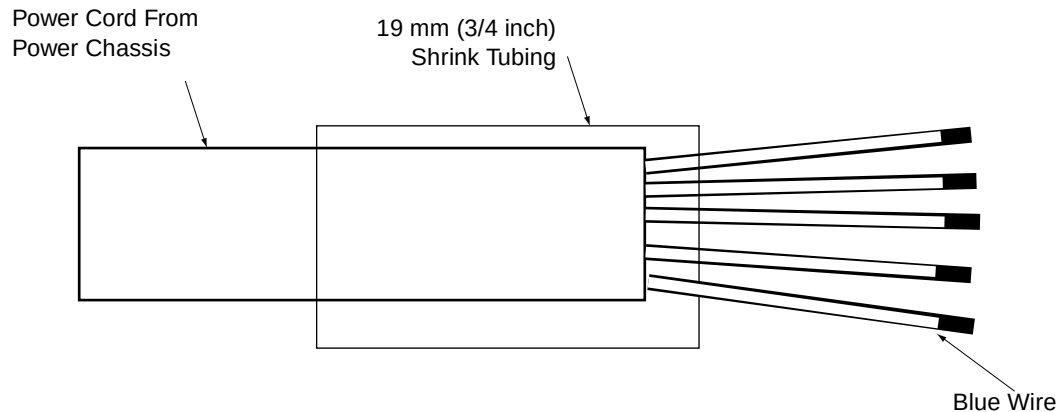

**Figure 5-9. Insulating Blue Wire in Power Cord (380-415 VAC)**
3. Remove and discard the 7 mm (1/4-inch) shrink tubing from the end of the blue wire in the power cord (see Figure 5-9 on page 104).